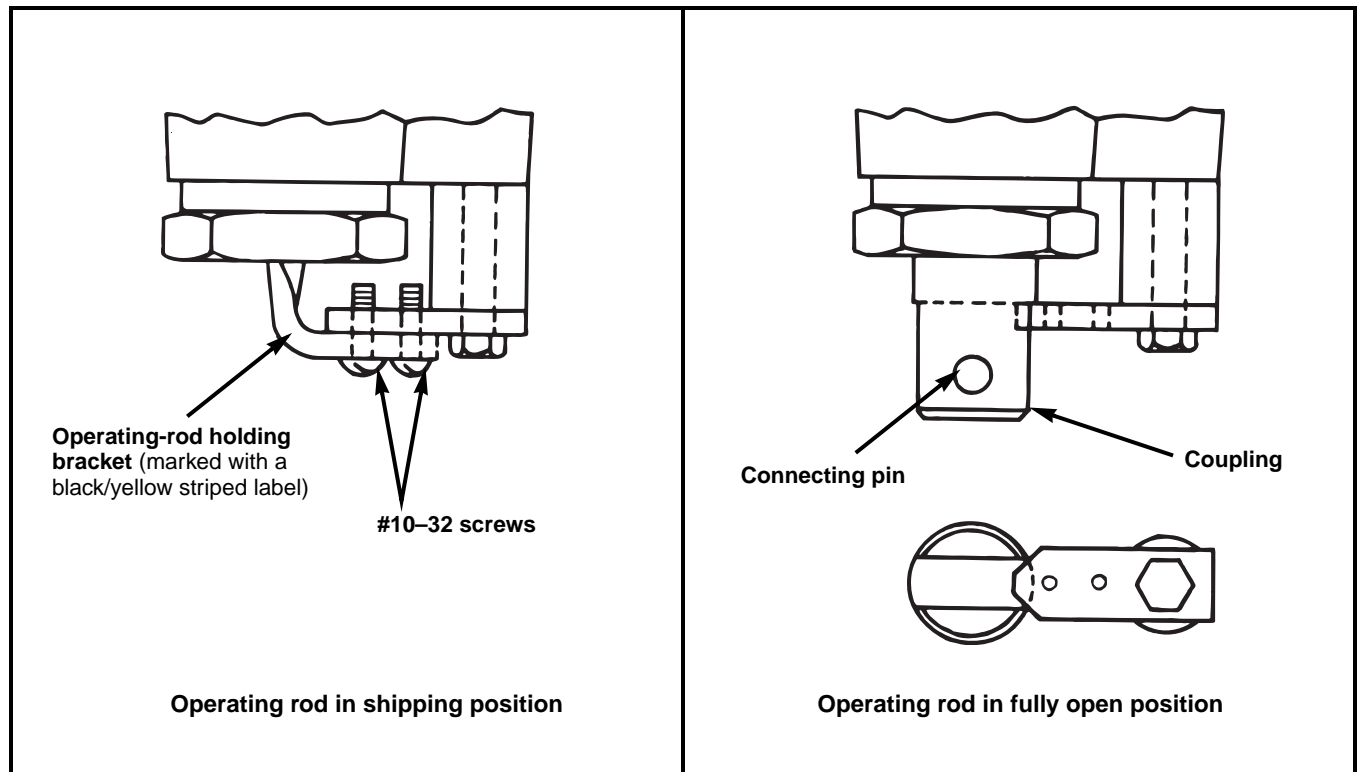

Figure 7. Preparing replacement interrupter for attachment to insulating support column.
- (a) Remove and discard the two #10-32 screws which connect the operating-rod holding bracket (marked with a black/yellow striped label) for shipment. See Figure 7 (left).
- (b) Pull the holding bracket to move the operating rod to its fully open position. See Figure 7 (right).